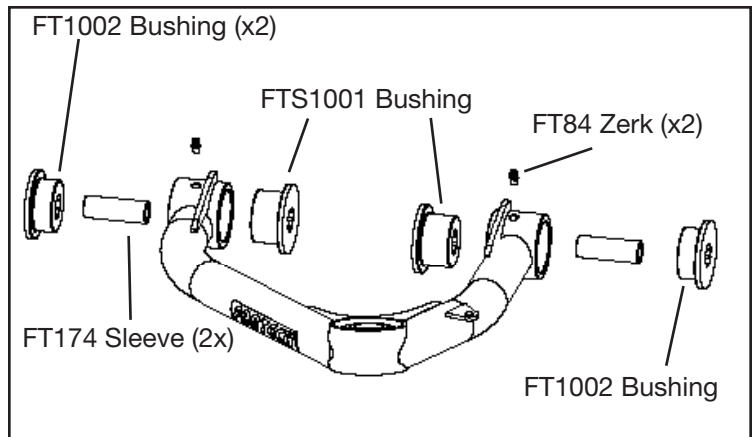

FIGURE 4 - STEP 5
5. Install (2) FTS1001 bushings, (2) FT1002 bushings, (2) grease zerks FT84 and (2) FT174 sleeves into the new FT70191BK (Driver control arm) using the supplied grease. **SEE FIGURE 4**